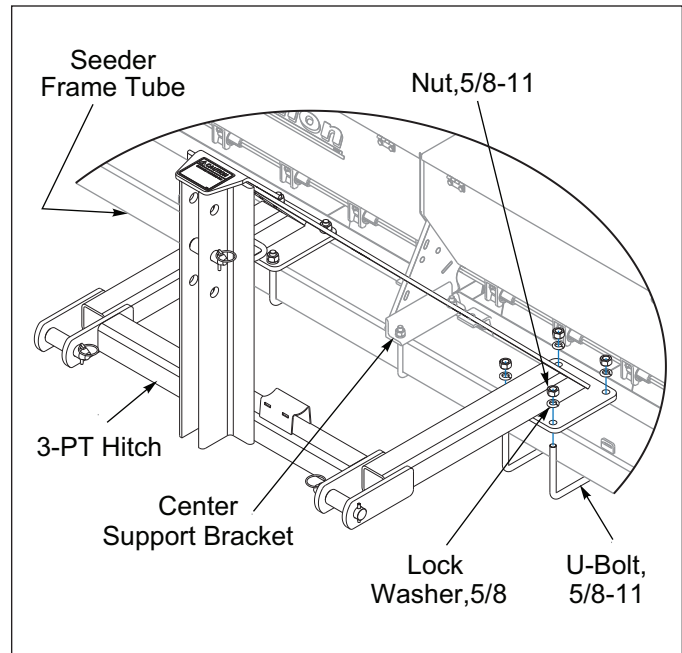

Figure 2-1: 3-PT Seeder Hitch Installation
2. Center a Seeder 3-PT Hitch Assembly in relationship with the each Seeder Units Center Seed Box Support Bracket. Attach the 3-PT Hitch Assembly to each Seeder Frame Tube with 5/8-11 U-Bolts, Lock Washers and Nuts. **See Figure 2-1.**